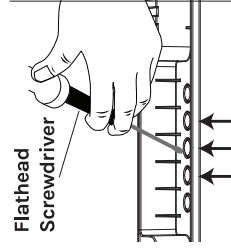

Fig. 1
- Place the laundry sink on a clean surface, such as a blanket or cardboard, and then turn the sink upside down so that you can remove the three center knockouts where the faucet will be installed. The hole plug can be removed with a flat-head screwdriver and hammer. Strike around the inside edge of the knockouts until it is removed (see Fig. 1).